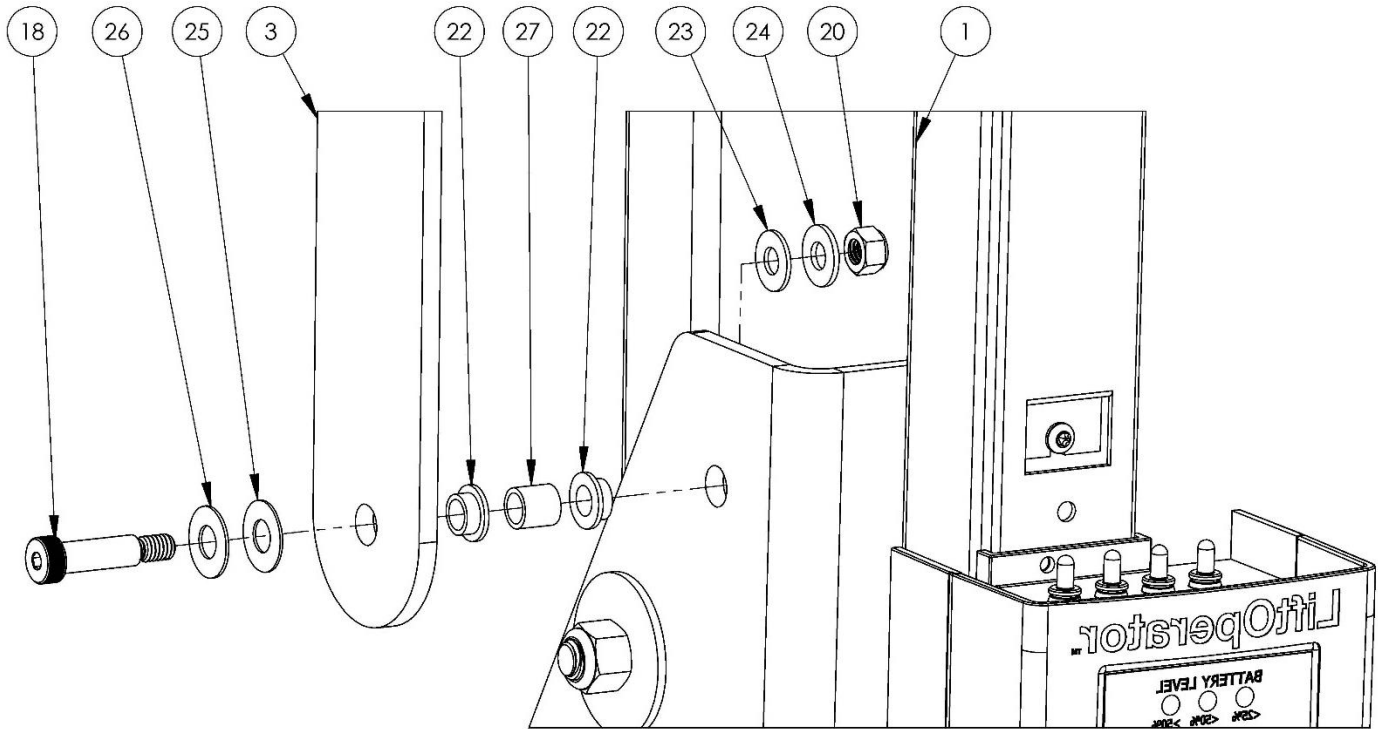

Figure 8
11. Next assemble the seat leveling arm to the multiLift2 base as shown in Figure 8.